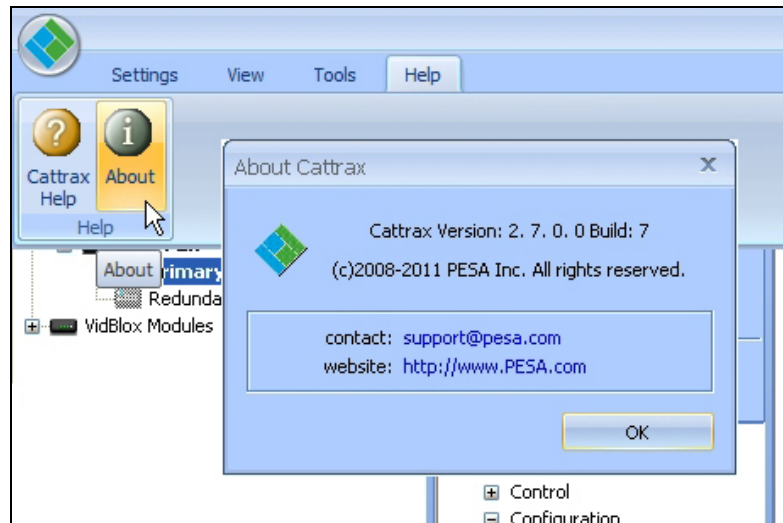

Figure 1. About Cattrax Prompt
4. When Cattrax opens, click the "Help" tab and the "About" icon in the help menu. Verify that the version of Cattrax is 2.7.0.0, Build 7, or later, as illustrated by Figure 1.